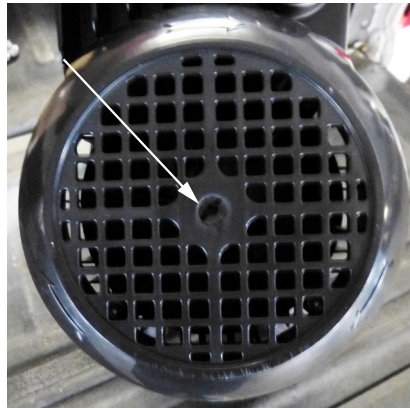

Figure 4. Screwdriver Insertion Point
7. Removing the impeller requires holding the motor shaft stationary while turning the impeller counter-clockwise. A flat screwdriver must be inserted into the slot in the end of the shaft at the rear of the motor. An access hole is provided in the center of the rear motor cover. While holding the shaft still with the screwdriver, manually rotate the impeller counter-clockwise to unscrew. See **Figure 4**.